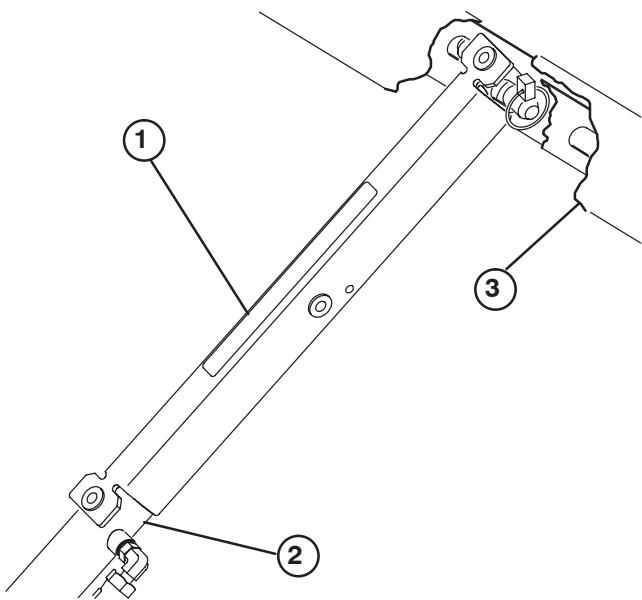

Figure 40
- Push bed support onto cylinder rod, making sure support end tabs rest on end of cylinder barrel and on cylinder rod end (Fig. 40).